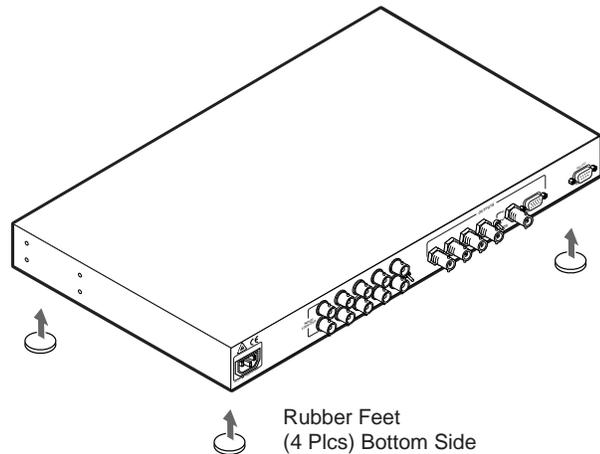

Figure 6 — Installing the rubber feet
- Place the rubber foot on one corner of the scaler as shown in figure 6, and press it into place.